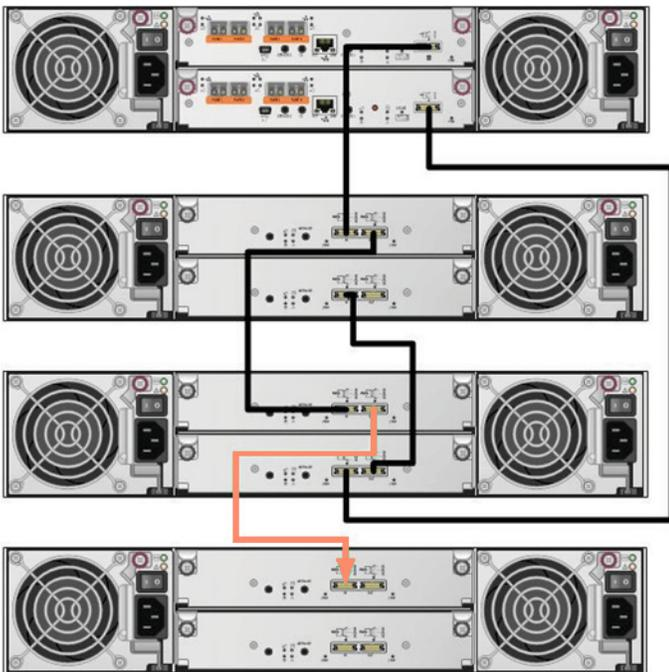

Figure 31. Adding new SAS cable to extend a channel to the additional shelf
4. Connect the new SAS cable (Figure 31, orange cable) from the A port (Out) of the current MSA storage system to the A port (In) of the new disk enclosure.